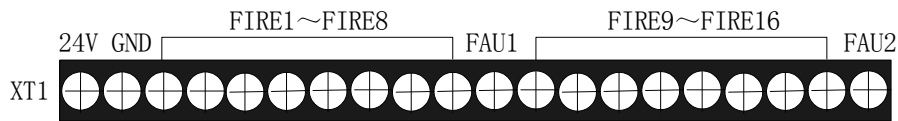

Fig. 4
2. Terminals are shown in Fig. 4.